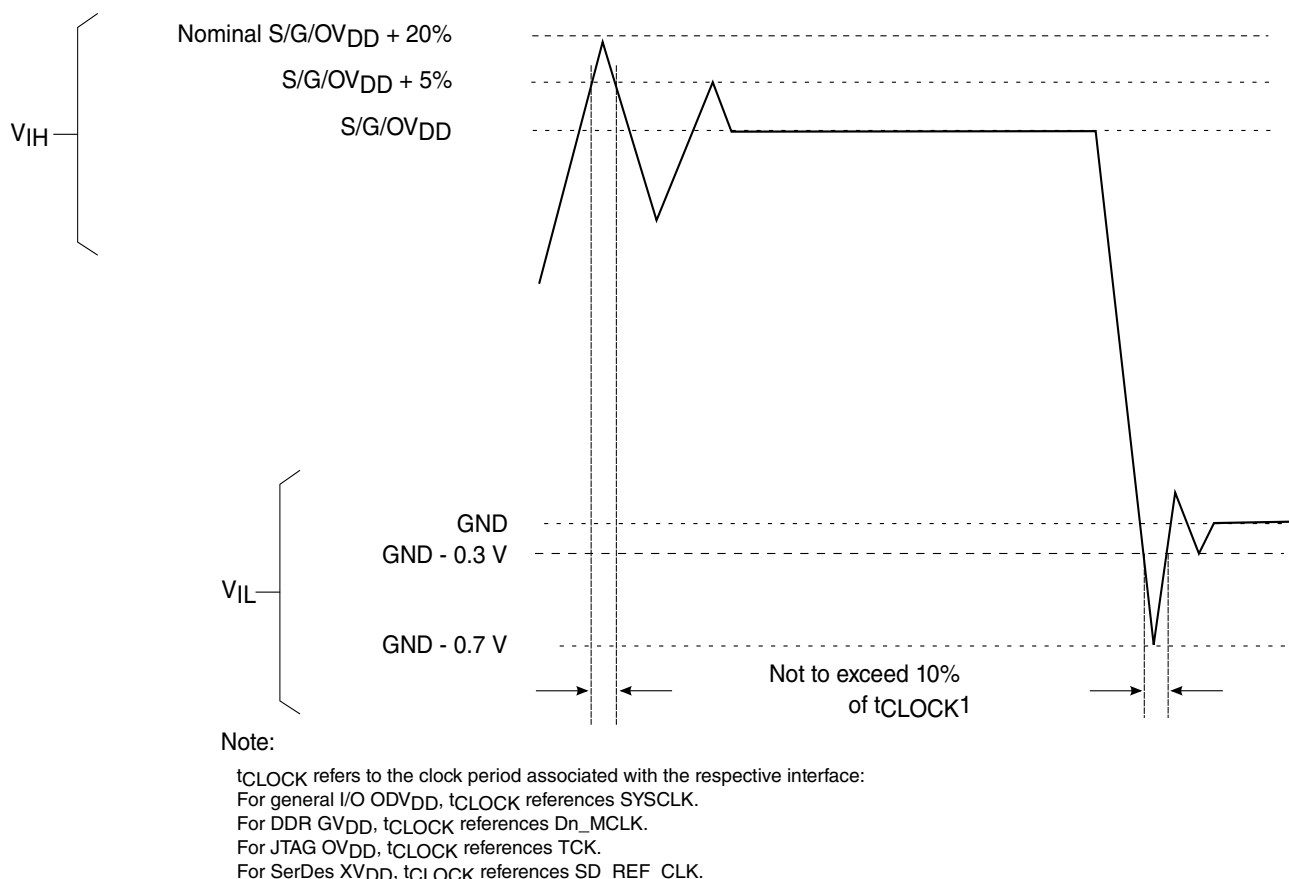

Figure 7. Overshoot/Undershoot voltage for GV_{DD} / OV_{DD} / SV_{DD}
4. SV_{IN} , USB_HV_{IN} , USB_SV_{IN} may overshoot/undershoot to a voltage and for a maximum duration as shown in Figure 7 .